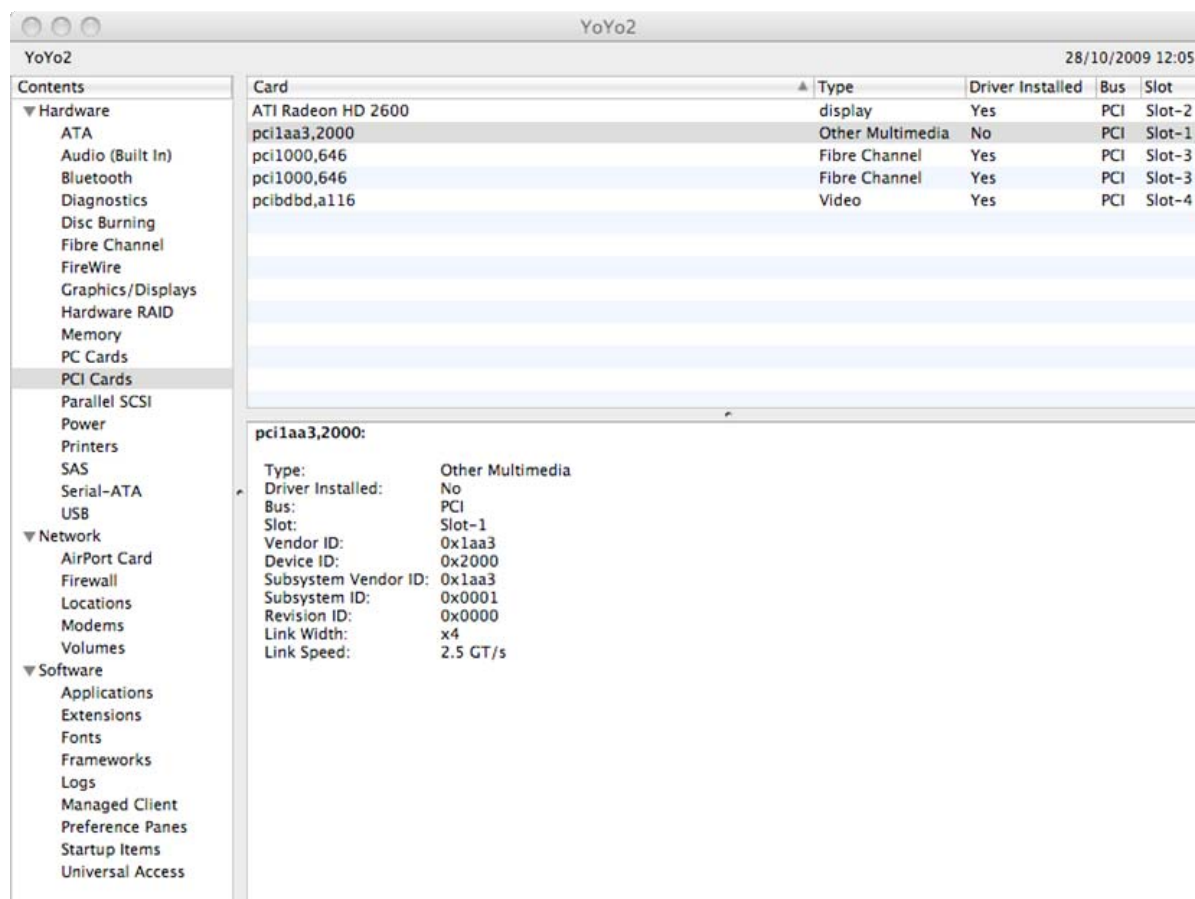

Figure 10.5 MacOS Hardware profiler
- The **Pci1aa3,2000** should be present in the list of PCI devices as shown in figure 10.5